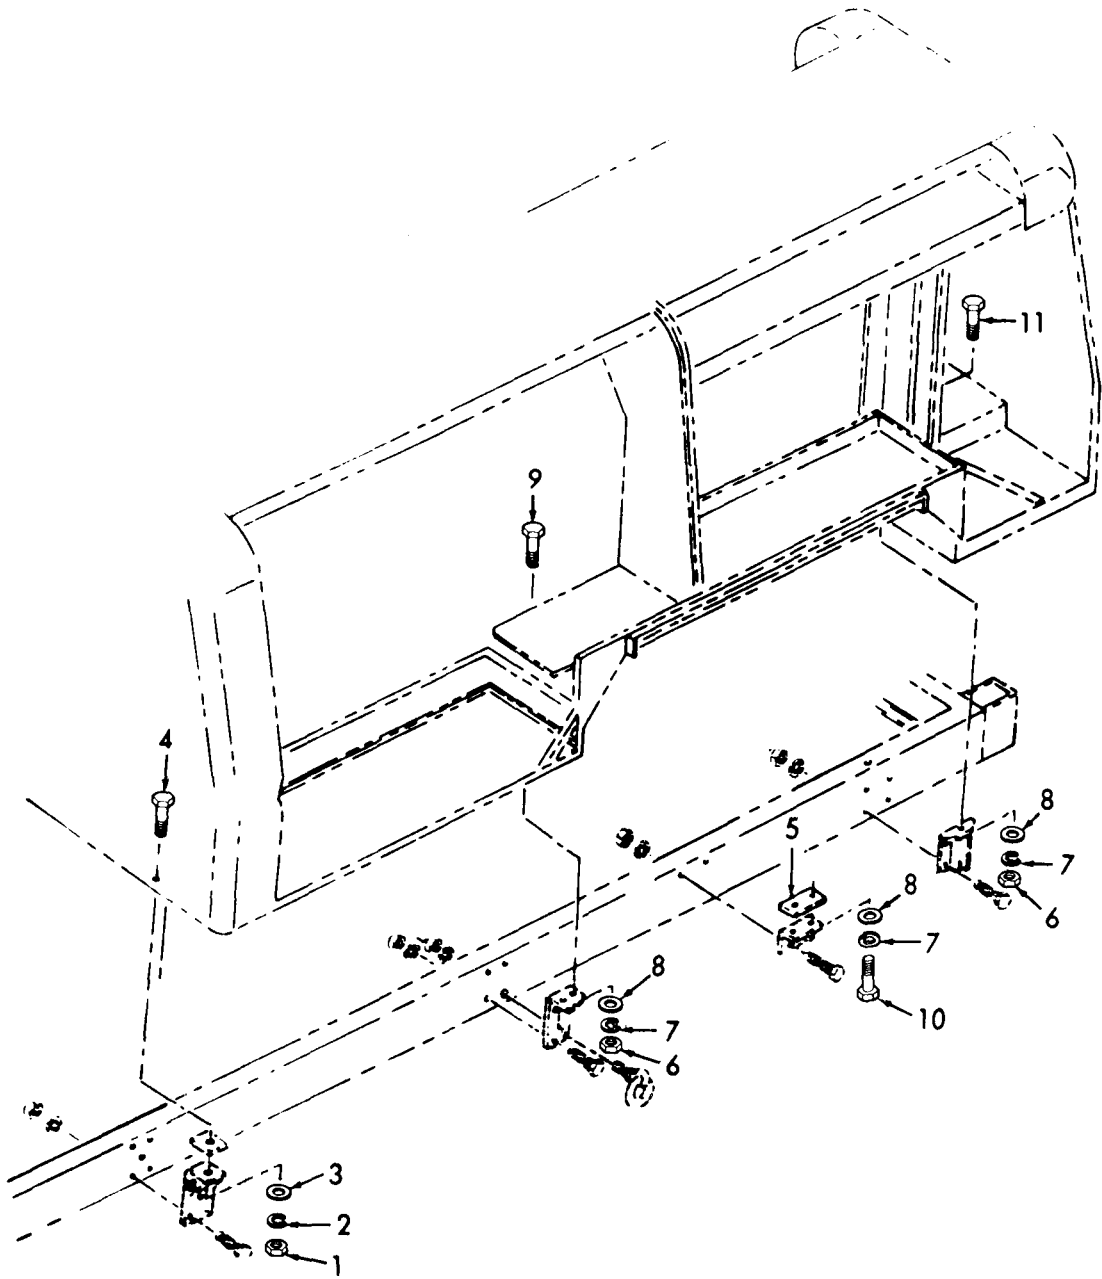

Figure 5-4. Shop Body, Removal and Installation.
- (1) Disconnect the 24-volt wiring harness running inside the left frame member, beneath the front end and rear of the shop body.
- (2) Disconnect the personnel heater.
- (3) Refer to figure 5-4 and remove the attaching hardware.
- (4) Attach a suitable lifting device and remove the shop body.
- (1) Attach a suitable lifting device and place the shop body into position.
- (2) Refer to figure 5-4 and install the attaching hardware.
- (3) Connect the personnel heater.
- (4) Connect the 24-volt wiring harness beneath the front end and rear of the shop body.
## LEGEND FOR FIGURE 5-4: